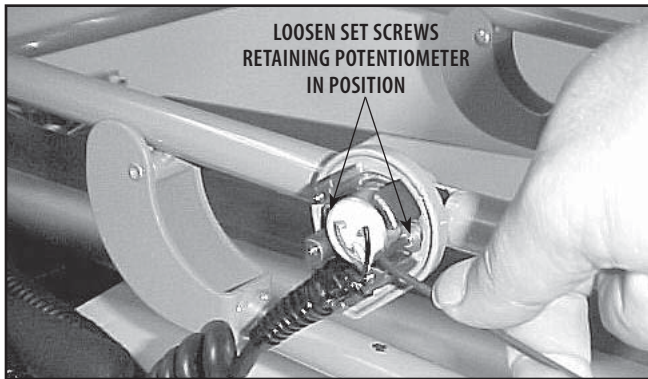

FIGURE 7.5
5. With the 3/32" Allen wrench, loosen the two set screws retaining the potentiometer. Refer to Figure 7.5.